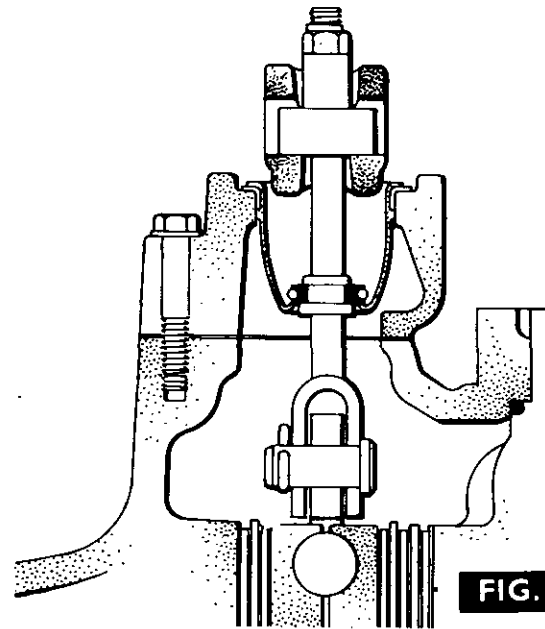

FIG. 22
1. If necessary refit the brake pull lever (53) refitting the pivot shaft and securing the assembly using a new split pin.
2. Fit a new rubber boot (52) into the actuator housing, preferably using a hydraulic press.
5. Fig. 22. Push the rubber boot inwards until the lips slip over the step in the actuator rod as shown.
1. If necessary, refit the brake pull lever (53) refitting the pivot shaft (68) and securing the assembly with a new split pin.
2. If necessary, refit the differential lock pedal (71) by refitting the pedal and pivot shaft (72) then securing the shaft, using a new locking pin (73).
3. Carefully fit a new rubber boot (52) preferably using a hydraulic press.
5. Manoeuvre the housing into position, taking care not to damage the new gasket and inserting the actuator rod into the rubber boot. Refit the three bolts (69) and spring washers.
6. Fig. 22. Push the rubber boot inwards until the lips slip over the step in the actuator rod, as shown. Do not displace the garter spring.
8. Refit the brake adjuster nut (55) and spacer (54).
6. Fit a new rubber boot (52) to the actuator housing (51) preferably using a hydraulic press.
7. Refit the actuator housing to the trumpet housing, using a new gasket and locating the actuator rod (50) through the rubber boot. Refit the three bolts and spring washers.
8. Fig. 22. Push the rubber boot inwards until the lips of the boot locate over the step on the actuator rod as shown. Do not displace the garter spring.
1. If necessary, reassemble the actuator units, fitting the balls (25) and springs (47) then refitting the links and actuator rod.
2. Refit the brake stop rod (26) to its hole in the trumpet housing.
6. Carefully fit a new rubber boot (52) into the actuator housing (70), preferably using a hydraulic press.
9. Fig. 22. Push the rubber boot inwards until the lips of the boot locate over the step in the actuator rod as shown. Do not displace the garter spring.